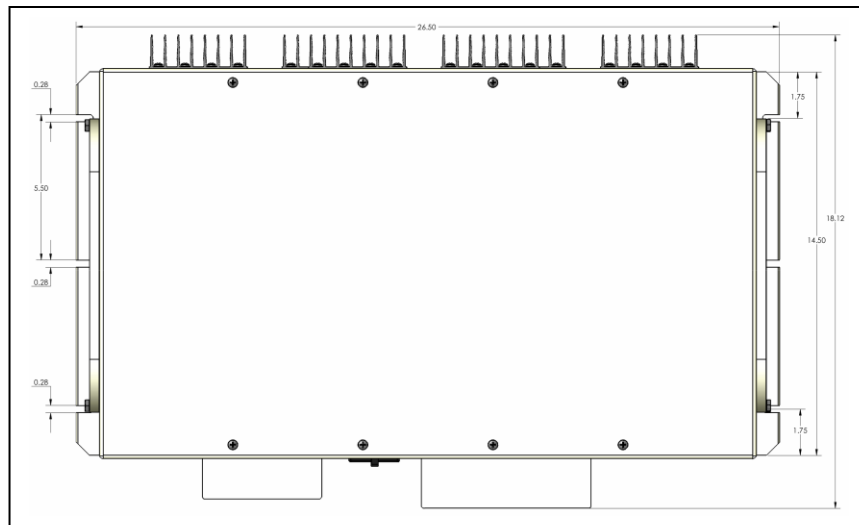

Figure 5 (Inverter Footprint)
- Locate the mounting holes on the chassis flanges and fasten them using 1/4 inch diameter screws to secure the inverter. See figure 5.